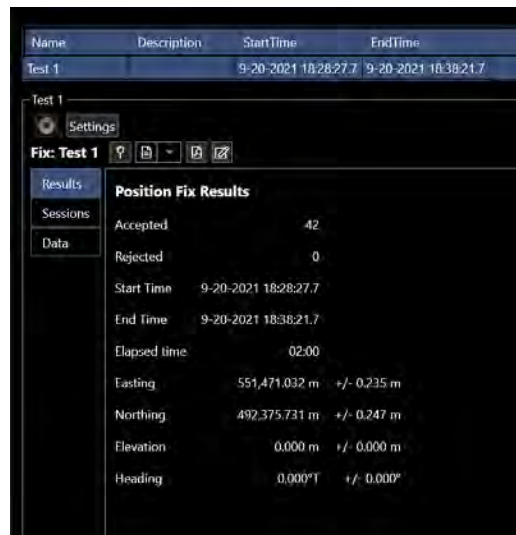

FIGURE 14-63 POSITION FIX TO BE EDITED
2. Select the position fix in the data grid to be edited (see Figure 14-63)